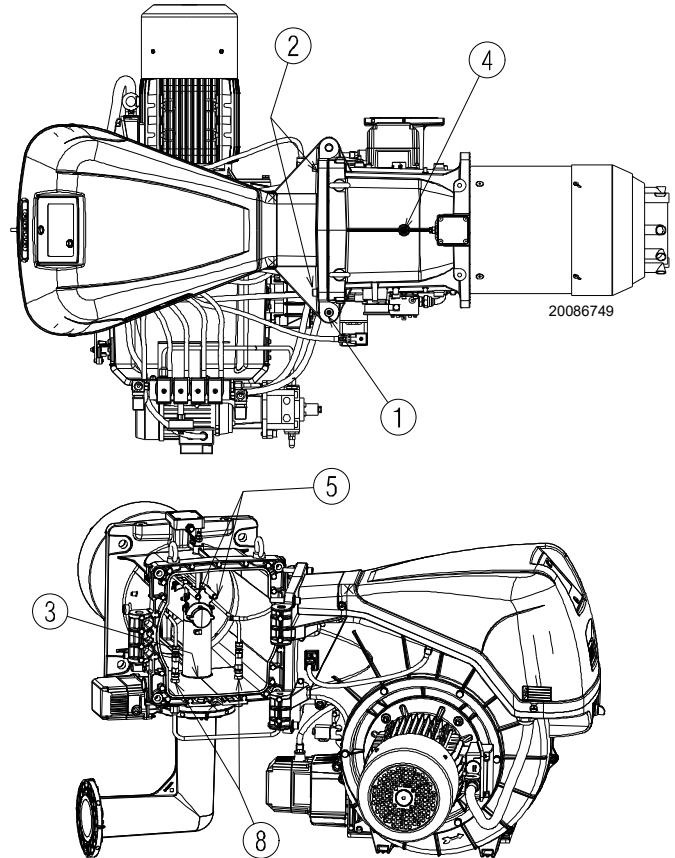

Fig. 17
The burner leaves the factory set for opening to the right, therefore maintaining the pin 1)(Fig. 17) in its housing.
- C** Fully open the burner as in Fig. 17;
To open the burner from the opposite side, before removing the pin 1)(Fig. 17), make sure that the 4 screws 2) are tight. Then shift the pin 1) to the opposite side, only then is it possible to remove the screws 2). Disconnect the socket 20)(Fig. 4 on page 11) of the maximum gas pressure switch, then proceed as described above at point C).